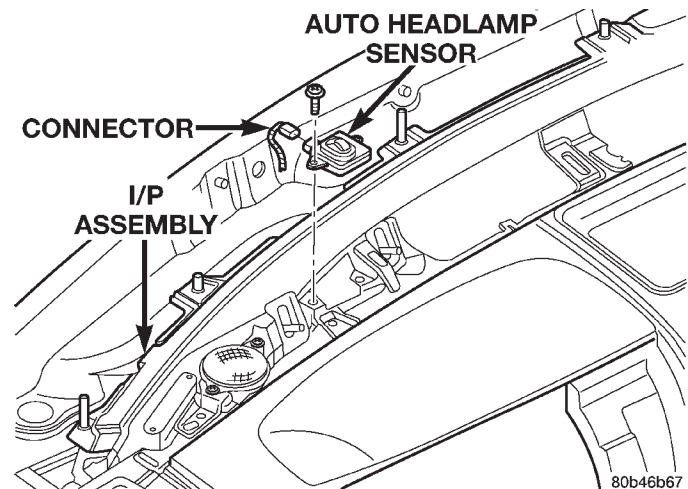

Fig. 1 Auto Headlamp Sensor
- (1) Remove instrument panel top cover. Refer to Group 8E, Instrument Panel for service procedures.
- (2) Remove screw attaching auto headlamp sensor to instrument panel (Fig. 1).
- (3) Disengage harness connector from auto headlamp sensor.
- (4) Separate auto headlamp sensor from instrument panel.